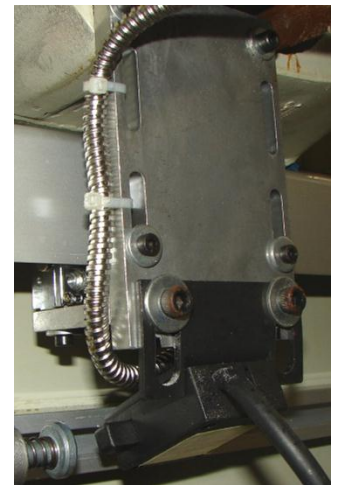

figure 4
The electronic rulers and pickups (fig. 4 & 5) have been set-up and adjusted at the factory. No further adjustments should be required. If in need of further assistance contact: **Baileigh Industrial at (920) 684-4990.**